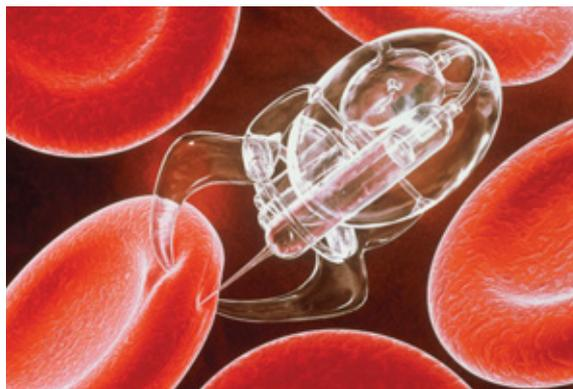

FIGURE 6 An artist's impression of a hypothetical nanorobot delivering a solution of a drug to a red blood cell
- pumps to deliver precisely targeted amounts of chemicals, such as drugs (Figure 6)